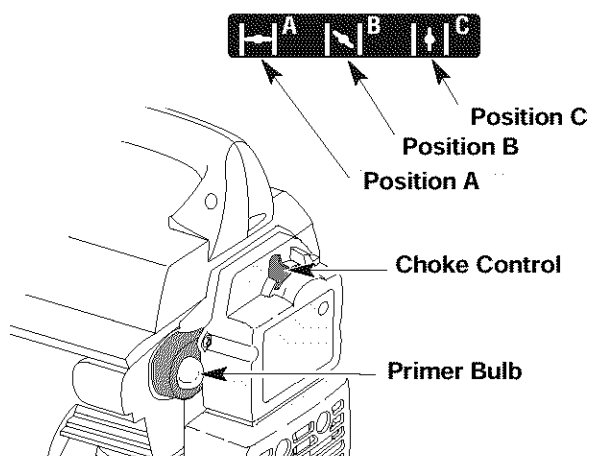

Fig. 10
3. Fully press and release the primer bulb 10 times, slowly, until **PETROL IS VISIBLE IN THE PRIMER BULB** (Fig. 10). If you can't see petrol in the bulb, press and release the bulb as many times as it takes before you can see petrol in it.
4. Place the choke lever in Position **A** (Fig. 10).